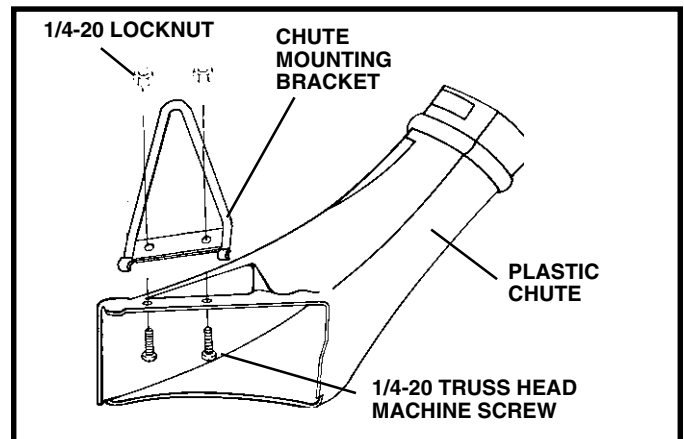

FIG. 2
- Attach chute mounting bracket to plastic chute using (2) two 1/4-20 truss head machine screws and (2) two 1/4-20 locknuts and tighten securely. (See Fig. 2)